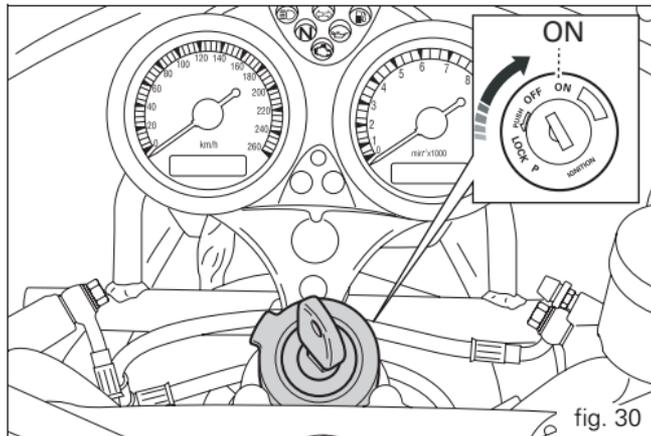

fig. 30
- 1) Turn the ignition switch to **ON** (fig. 30). Check that both the green light **N** and the red light  on the instrument panel come on.